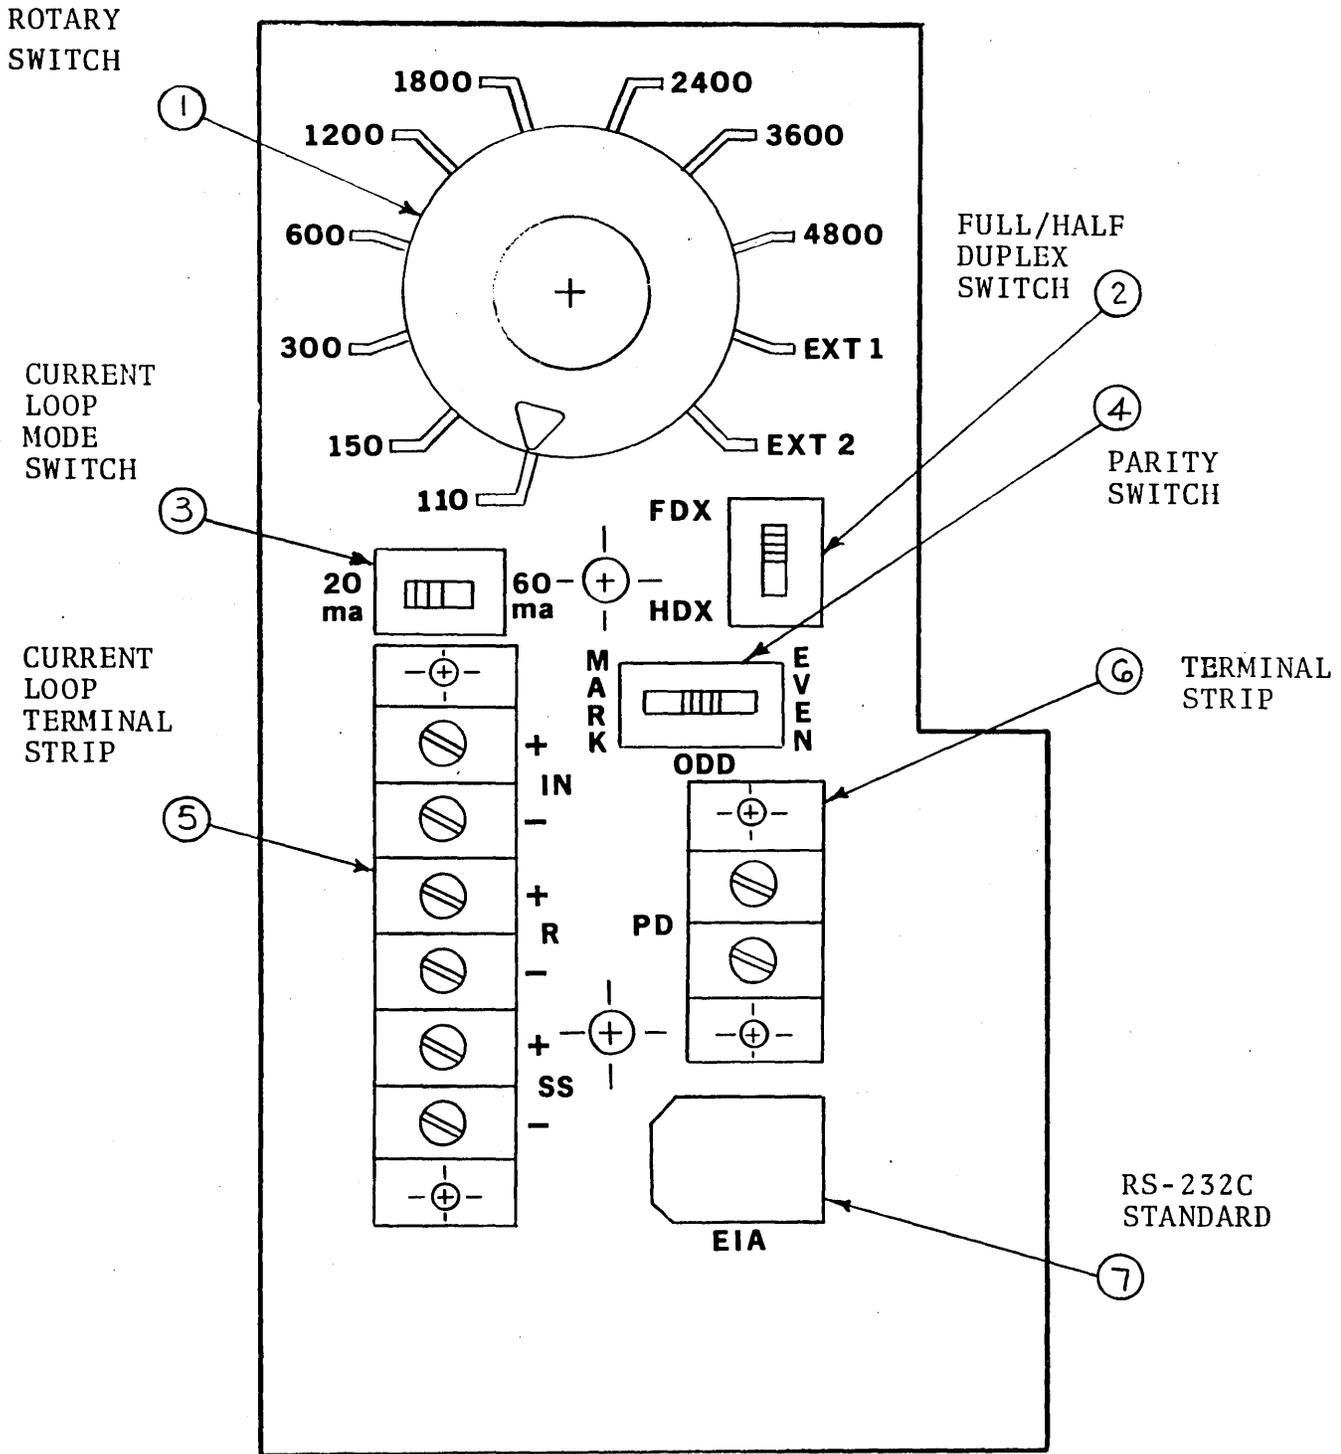
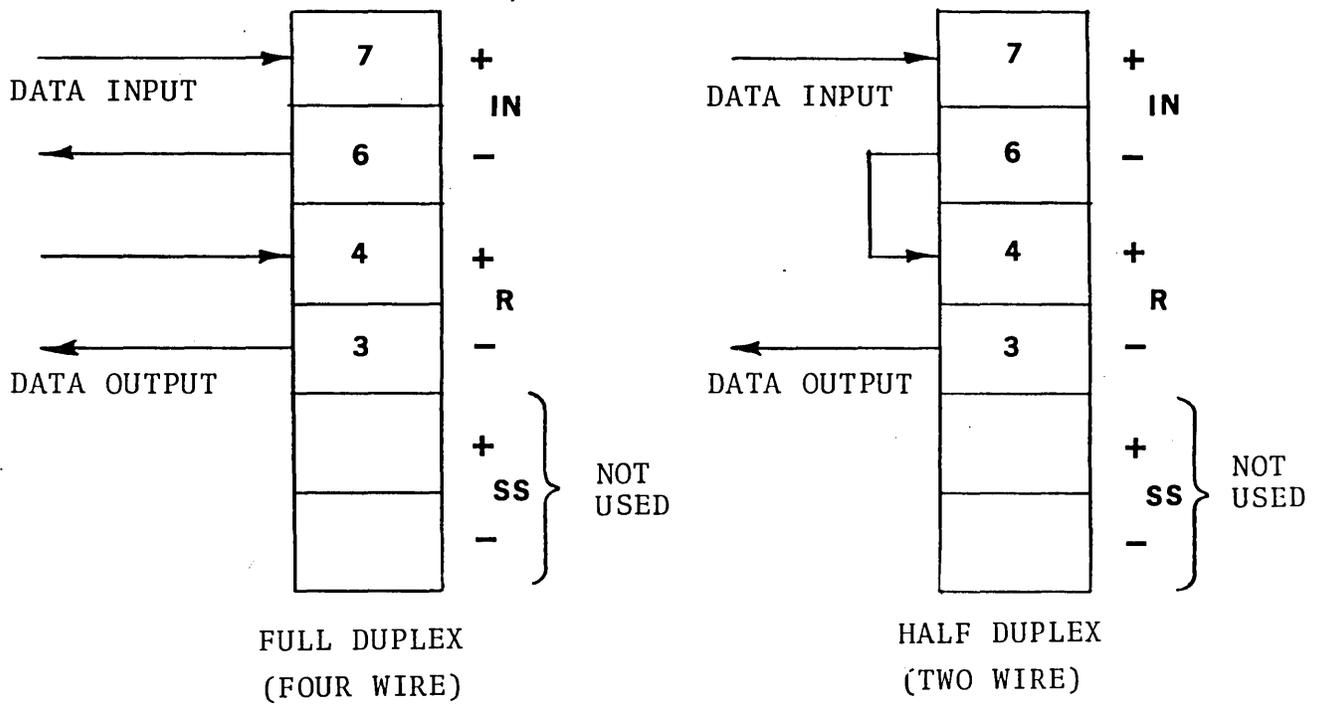

FIGURE 9: CONTROL PANEL OF ASYNCHRONOUS SERIAL INTERFACES I-103, I-104, and I-105
FIGURE 10: CURRENT LOOP CONNECTIONS
The Multipurpose Asynchronous Serial Interface is multipurpose in the sense that it provides both a communication interface compatible with EIA Specification RS-232C and a current loop interface in one printed circuit card. The interface provides an exposed panel in the rear of the terminal (see Figure 9) on which one may select various modes of operation. Specifically, the panel shown in Figure 9 contains:
5. A terminal strip used for connecting to the current loop interface. [Note: In some versions the connectors labeled "R" in Figure 9 are denoted "OUT", and the connectors labeled "SS" are not marked.]
The data transmission rate is determined by the setting of the rotary switch (reference point 1, Figure 9). The nine standard baud rates are 110, 150, 300, 600, 1200, 1800, 2400, 3600 and 4800. These rates are available with both the RS-232C and current loop interfaces of the multipurpose asynchronous serial interface; an internal crystal clock controls these nine rates.
The interface contains a connection to a local teletypewriter-like device at the terminal strip (reference point 6, Figure 9). Terminal #7 (+) of the Teletype is connected to the (+) terminal on the INFOTON asynchronous interface, and Teletype terminal #6 (-) is connected to the (-) terminal. The signal at the terminal of the INFOTON interface is a 20 ma output of all the ASCII characters received by the VISTA PLUS interface from the data channel.* (This terminal block is not to be confused with the selective output to a hard copy device, which is initiated by the PRINT PAGE or PRINT FIELD commands.)
The VISTA PLUS is delivered with a 6-foot detachable cable which is used to connect the unit to a computer or appropriate modem. On one end of the cable is a MOLEX plug which fits into the rear of the VISTA PLUS (reference point 7, Figure 9). The other end of the cable has a 25 pin standard EIA connector, which is attached to the customer's modem or computer. The pin connections for the MOLEX and EIA connectors are specified in Table 7, along with the RS-232C designations of the signals.
When the RS-232 communication interface is used, the position of the Full Duplex/Half Duplex switch (reference point 2, Figure 9) is immaterial. The communication channel itself may be full duplex or half duplex, depending upon the system design.*
The I-105 asynchronous serial interface contains a current loop interface which is compatible with the current/no current input and output of Teletype equipment. The sensitivity of the interface may be set to 20 or 60 milliamperes by a switch (reference point 3, Figure 9).
When the interface is operating in the current loop mode, the full duplex/half duplex switch (reference point 2, Figure 9) must be in the full duplex (FDX) position. The actual choice between a full or half duplex data channel is made by the wiring to the terminal strip (reference point 5, Figure 9). Figure 10 shows the wiring for the two choices. The numbers on the connectors in Figure 10 refer to the number of the corresponding pins on a Teletype barrier strip. Two-wire twisted pair or four-wire twisted pair cabling is recommended for half or full duplex operation, respectively.
Figure 9 illustrates the control panel for the I-103 interface. The hardware at reference points 3 and 5 is not operative in the I-103 interface.
Figure 9 illustrates the control panel for the I-104 interface. The hardware at reference point 7 is inoperative in the I-104 interface.